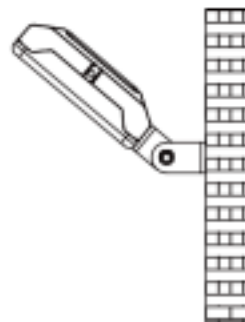

figure 2.5
Step 3: Loosen screws; Adjust lamp angles as per actual demands and tighten screws later.(figure 2.5)